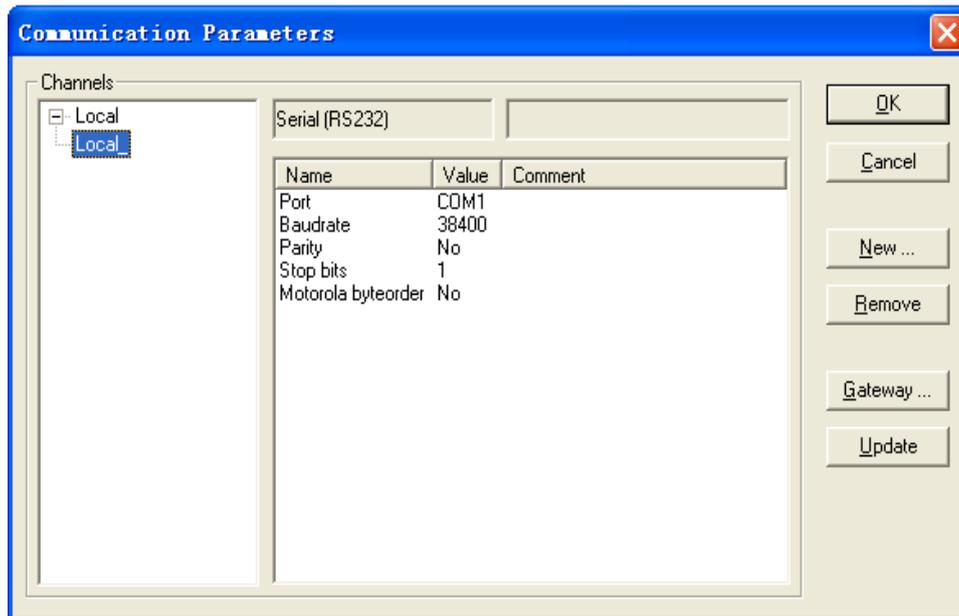

Figure 3-5-1 "Communication Parameters" Dialog
- Select "Communication Parameters" in the "Online" menu and a dialog box of communication parameters will appear, as shown in figure 3-5-1.